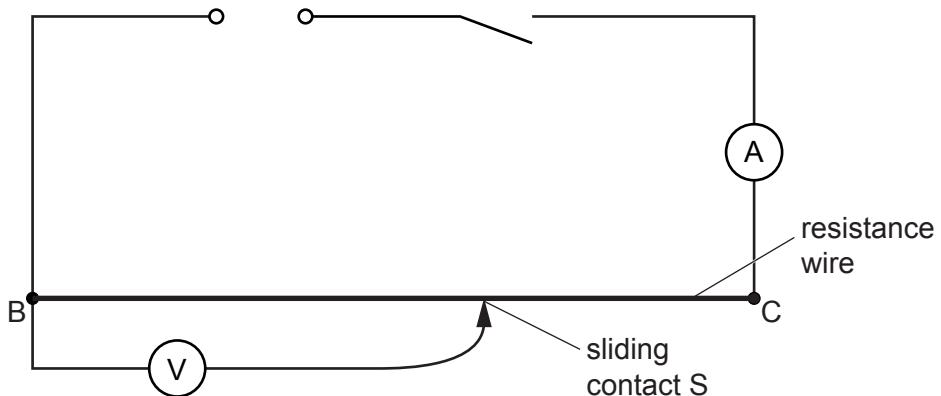
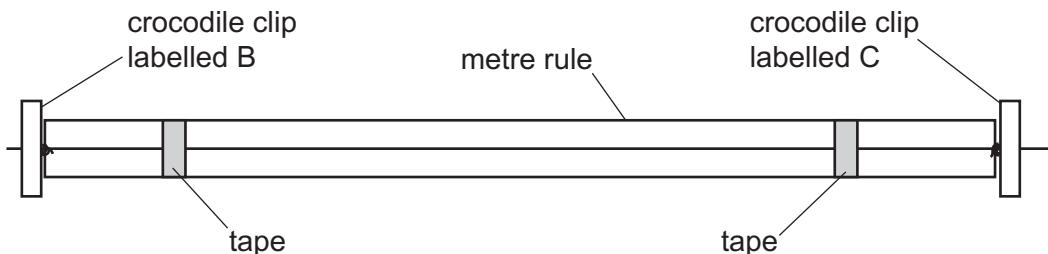

Fig. 2.1
Fig. 2.2
- (vi) Two suitable terminals (e.g. crocodile clips) attached to the constantan wire at the ends of the metre ruler so that connections can be made to the circuit (see Fig. 2.1 and Fig. 2.2). The terminal at the zero end of the ruler is to be labelled 'B'. The terminal at the 100cm end of the ruler is to be labelled 'C'.
- (viii) Sufficient connecting leads to set up the circuit shown in Fig. 2.1.
- The circuit is to be set up for the candidates as shown in Fig. 2.1.
- The wire must be attached to the metre ruler as shown in Fig. 2.2.
Check that the circuit is arranged as shown in Fig. 2.1.